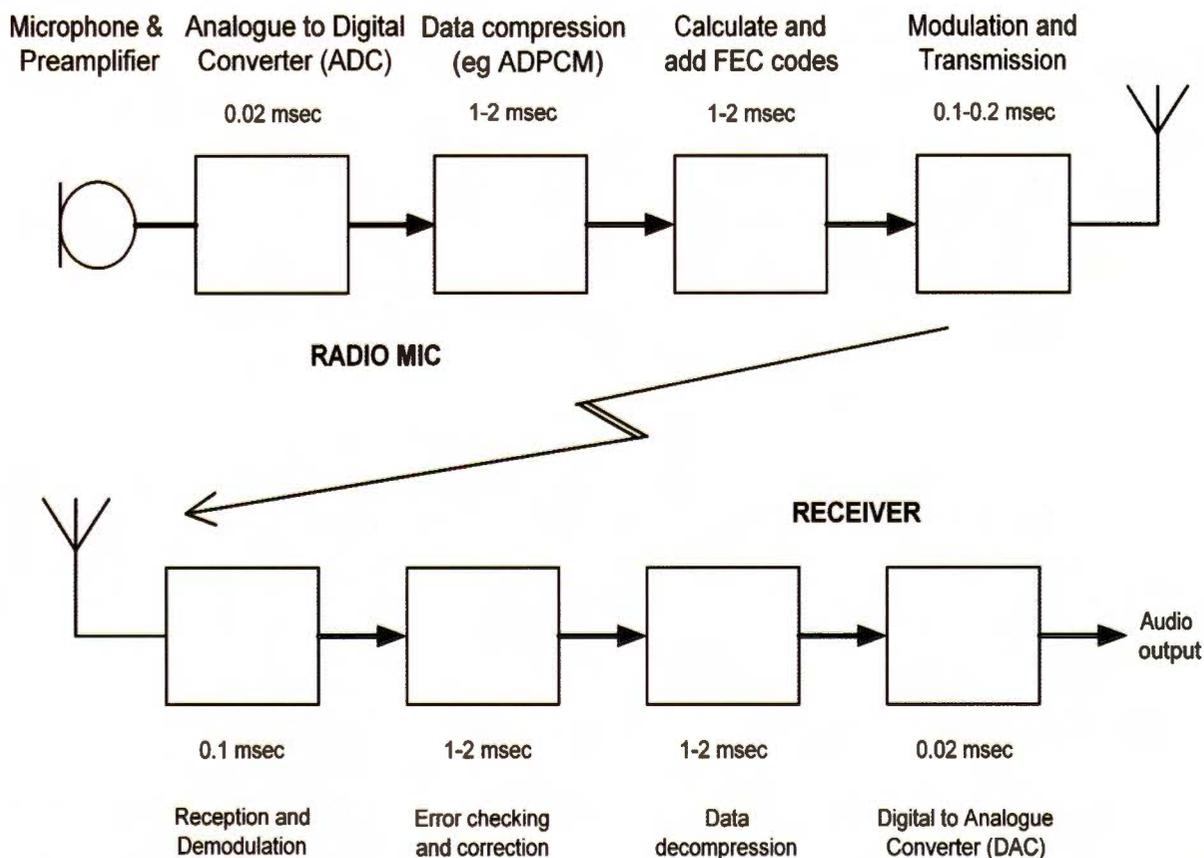

Figure 1: A simple digital radio microphone system
**Figure 1** shows the basic blocks required for a digital radio system. Typical latency values are shown for each block. The total system latency is the sum of these individual values.